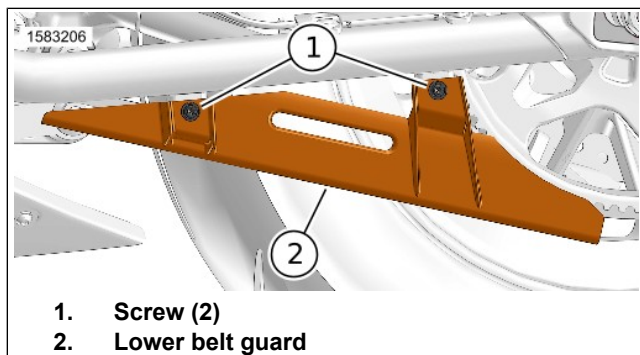
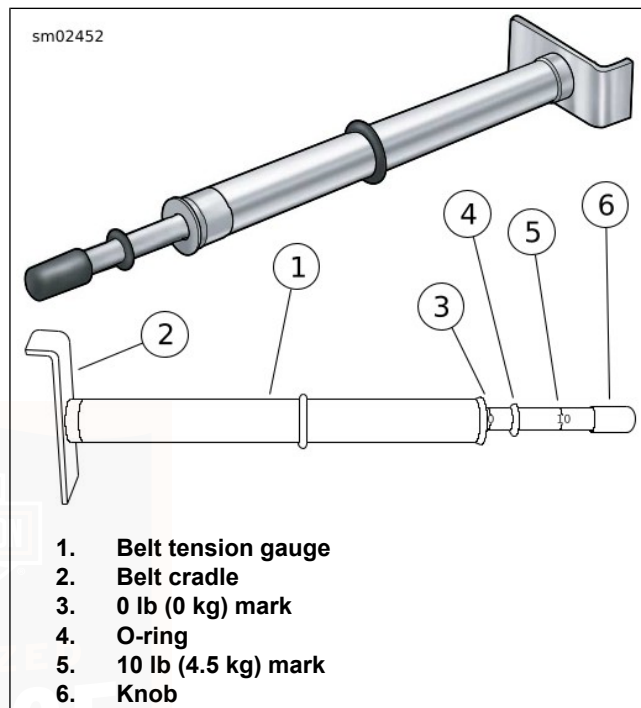

Figure 50. Lower Belt Guard
Figure 51. Belt Tension Gauge
2. See Figure 50. Remove lower belt guard.
- a. Remove screws (1) and lower belt guard (2).
3. See Figure 51. Measure belt deflection using:
6. See Figure 50. Install lower belt guard.
- a. Place lower belt guard (2) in position.
- b. Install screws (1). Tighten.